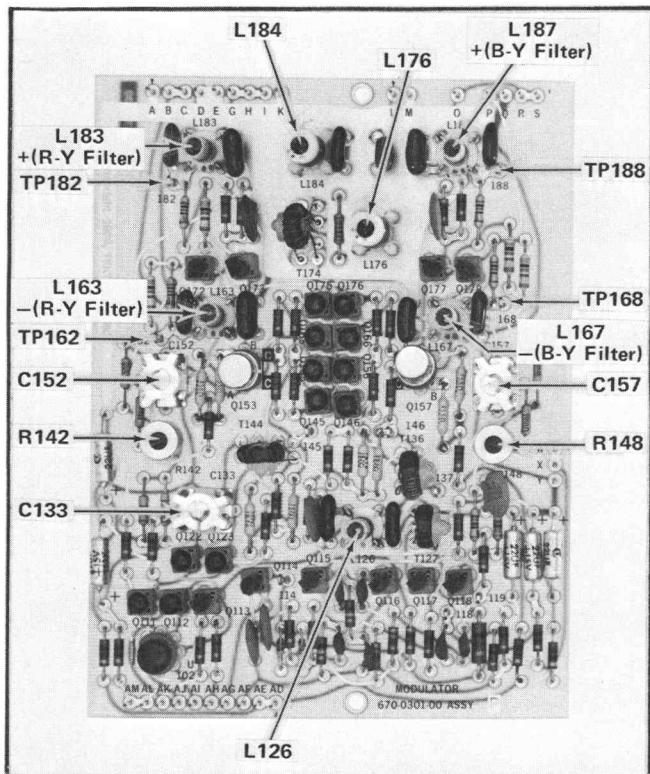

Fig. 5-14. Modulator board adjustment and test point locations.
- Connect the 10X probe tip to TP188 on the Modulator board (see Fig. 5-14).
g. ADJUST—C157, R148, C152, and R142, (see Fig. 5-14) for minimum peak-to-peak chrominance on the blanking level.
f. ADJUST—C133 (see Fig. 5-14) until the requirement of part e is met.
e. ADJUST—L126 (See Fig. 5-14) for best color bar overlay; must be within 10 mV. (See Fig. 5-17B for improper display.)
f. ADJUST—C422 (see Fig. 5-19) and Readjust L163 (see Fig. 5-14) for minimum 3.58 MHz aberration between burst and the first color bar.
- h. ADJUST—C427 (see Fig. 5-19) and Readjust L167 (see Fig. 5-14) for minimum 3.58 MHz aberration between burst and the first color bar.
f. ADJUST—L176 and L184 (see Fig. 5-14) for (1) best green-magenta transition; (2) best square corner on the magenta chrominance; (3) best overlay of the displays. (See Fig. 5-20B.)